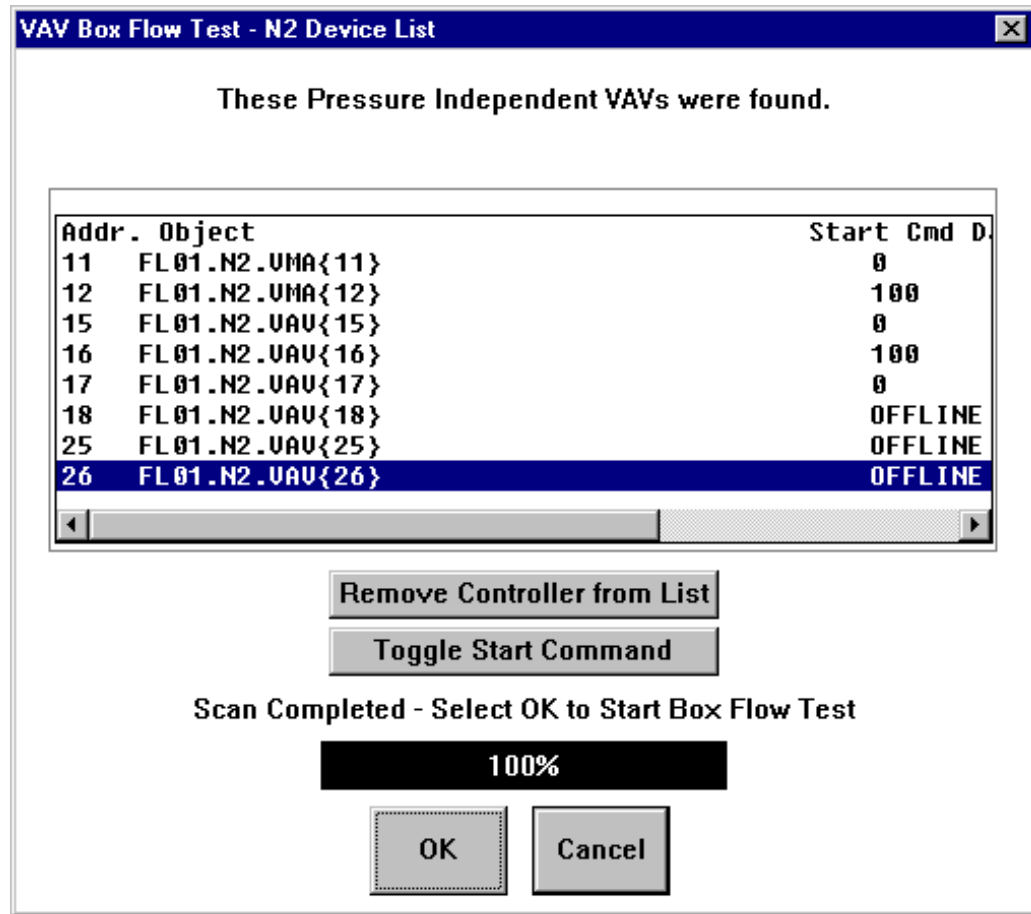

Figure 17-21: Multiple VAV Box Flow Test - N2 Device List Window
- Select a Supervisory Controller, then click OK or press Enter. HVAC PRO software searches the Supervisory Controller and displays a list of all Single Duct pressure independent VAV boxes found (Figure 17-21).